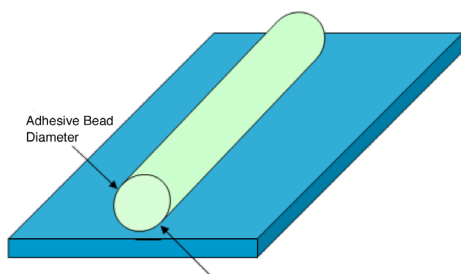

Figure 7. Bead Diameter Measurement
- Bead diameter measurement is depicted in Figure 7.